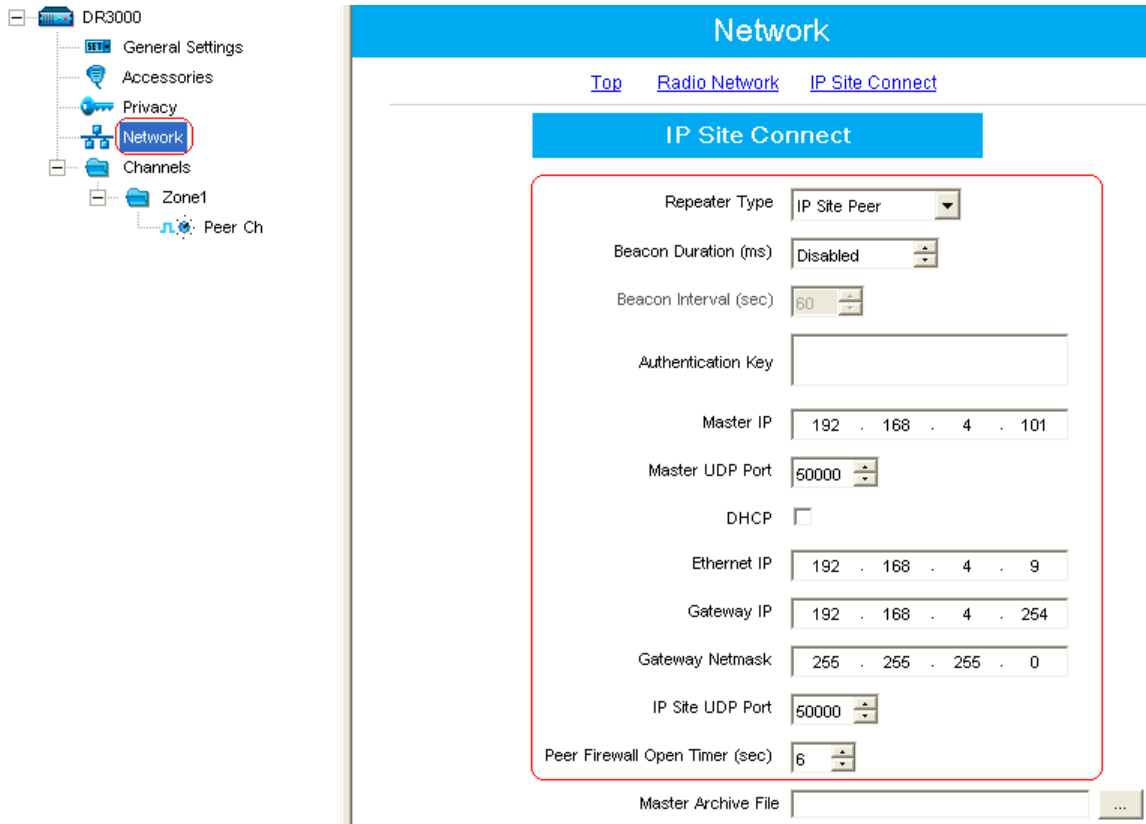

Figure 6.6
- 2) Navigate to the Network screen and set the Repeater Type to 'IP Site Peer' (see Figure 6.6 below).
- 3) Disable the beacon signal and authentication features as per the Master repeater (see Figure 6.6 below).
- 4) Set the Master IP and Master UDP Port to the same Ethernet IP address and IP Site UDP Port that were set for the Master repeater (see Figure 6.6 below).
- 5) Deselect the DHCP option as per the Master repeater (see Figure 6.6 below).
- 6) The Peer repeater must be configured to operate on the same subnet as the Master repeater, so deselect the DHCP option and enter appropriate Static values for the Ethernet IP, Gateway IP and the Gateway Netmask. For the example in Figure 6.6 below, the Peer repeater is programmed to operate on the subnet 192.168.4.X (as per the Master repeater) and the subnet parameters are programmed as follows:
- 7) Leave the IP Site UDP Port and Peer Firewall Open timer at their default values of 50000 and 6 respectively (see Figure 6.6 above).